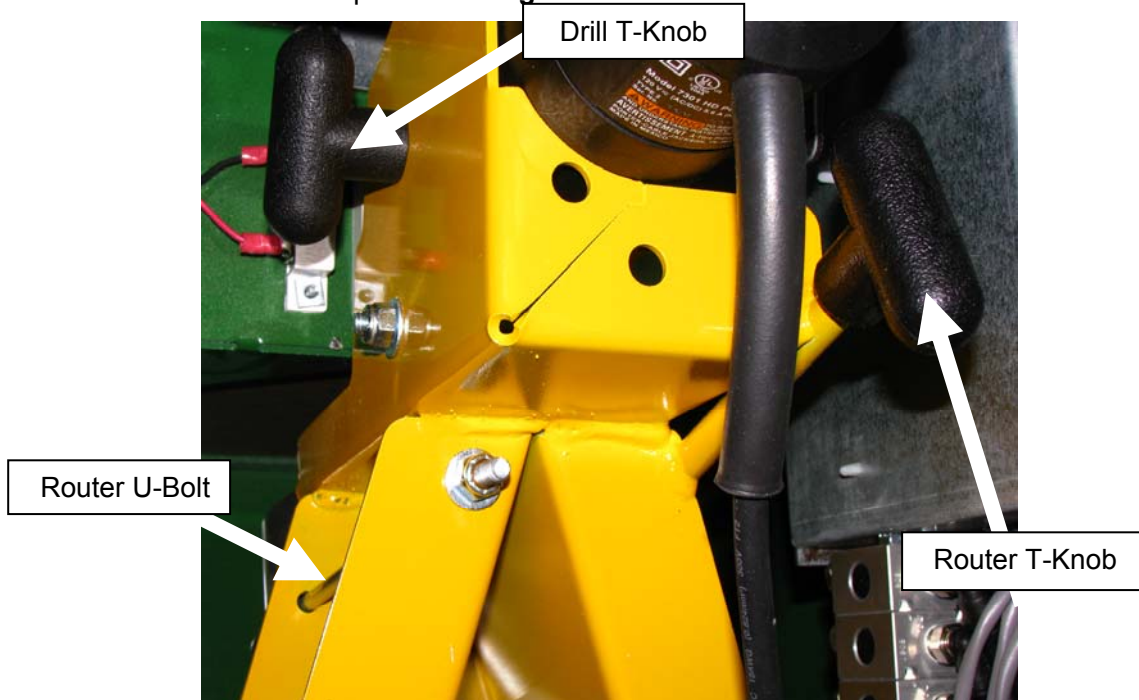

Fig 27
3. To the right of the Drill Motor is the Router T-Knob that tightens a large U-Bolt holding the Router Motor in place. **See Fig 27.**